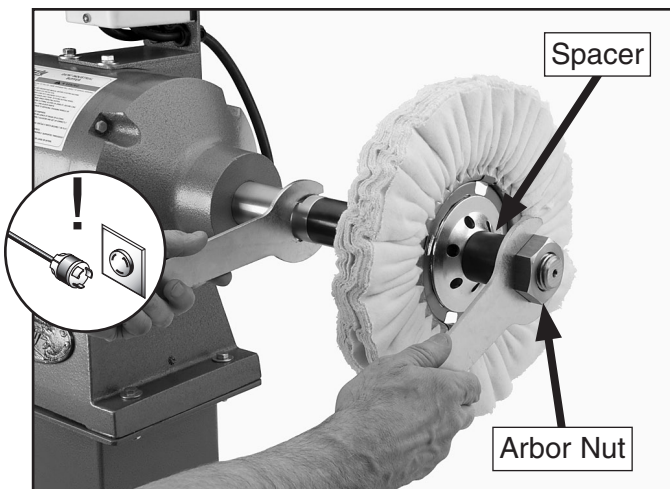

Figure 12. Securing single buffing wheel and spacers.
7. Use the arbor wrenches, as shown in **Figure 12**, to hold the shaft and tighten the arbor nut.